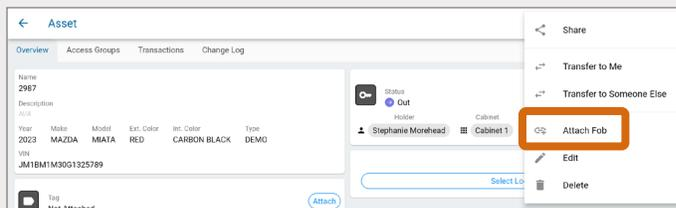

Fig. 71 – Select Attach Fob from the quick action menu
8. Click the **quick action menu**  in the upper right of the Asset details screen, as shown in Fig. 71.